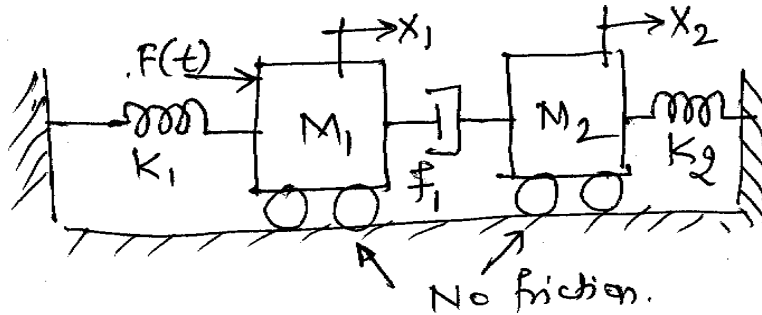

Fig. 2b
b) Obtain differential equation of mechanical system shown in fig. 2b. Draw the electrical analogous circuit based on force-current analogy.